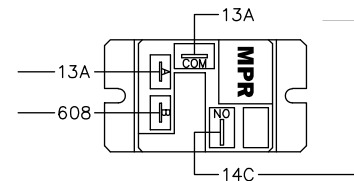

Figure 10-5. Master Power Relay (MPR)
7. See Figure 10-5. Using the appropriate back probe, connect the red meter lead to Wire 13A at the COM terminal. Connect the black meter lead to the battery negative terminal. Record the reading. Move the red meter lead to Wire 13A at the Pin A terminal and record that reading.